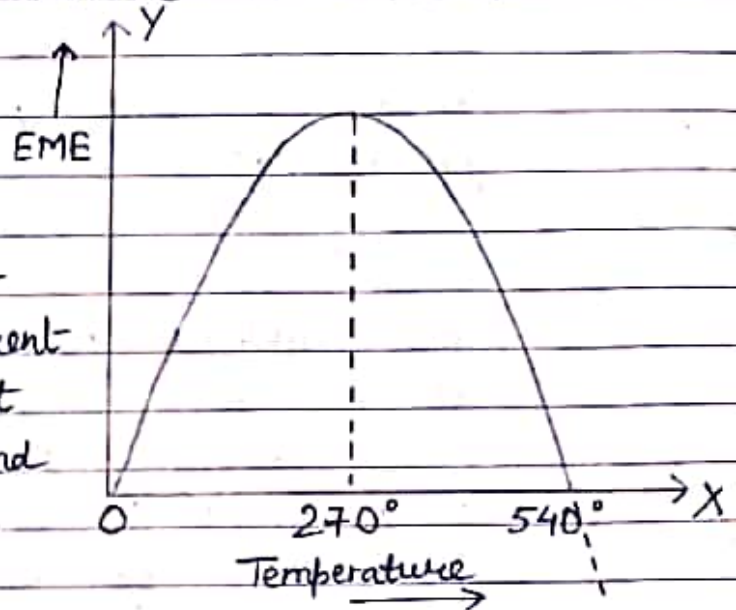

Fig. 2
• Effect of temperature :- If the end A is kept cold and the temperature of the junction B is slowly increased the thermodynamic current continuously increases as shown in Fig. 2. For
If the temp. is further increased the thermoelectric current increases in the opposite direction as shown in Fig 2.